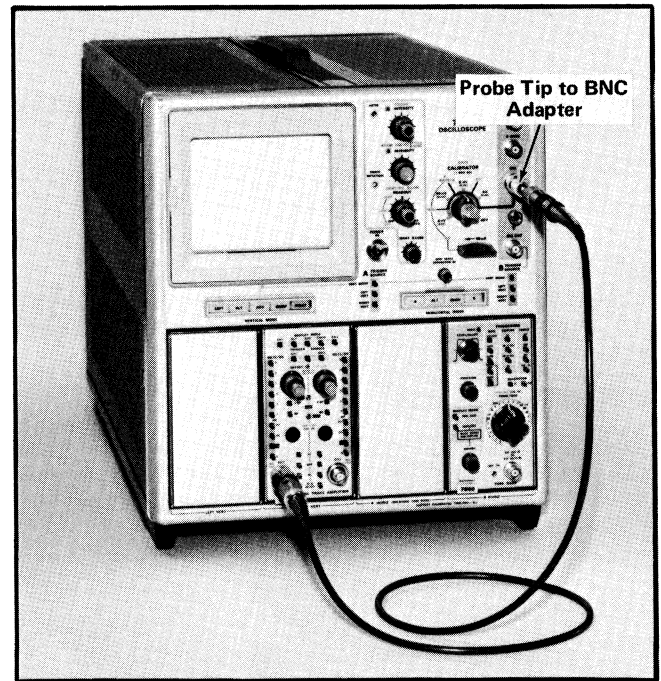

Fig. 5-1. Equipment setup for steps 2 and 3.
a. Equipment setup is shown in Fig. 5-1.